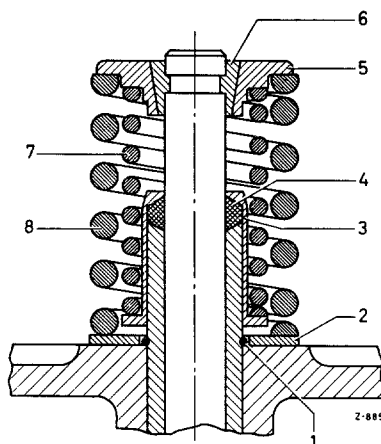

Fig. 05-5/4
While on model 220 SE the valve stem seal for the exhaust valves are also similar, the inlet valves are sealed with a silicone sealing ring (4), which is held against the valve guide by means of the sealing ring retainer (3) and the inner valve spring (4). (Fig. 05-5/4).